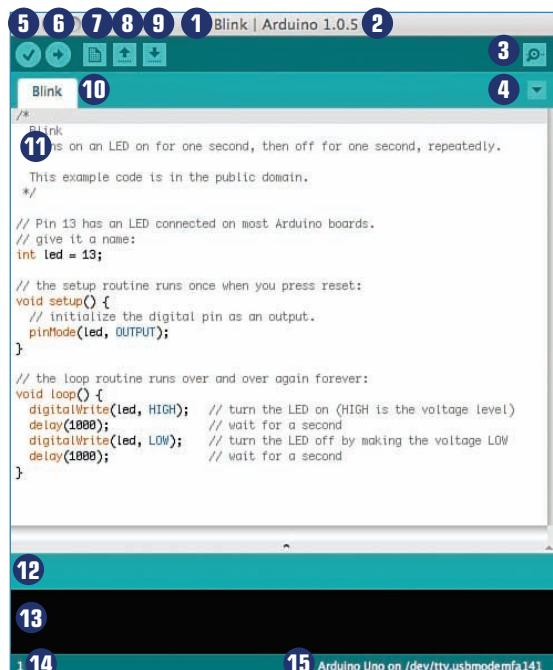

FIGURE 5.2 The Arduino environment's interface gives users a lot of options.
Broadly speaking, the IDE consists of a programming window and a set of menus. Figure 5.2 shows the Arduino IDE environment. Follow along with the callouts to see what each option does.
- ➖ **Status window**—This black pane displays error messages incurred during upload. The Arduino software verifies all code being sent and won’t upload if there’s an error. If a problem is found, the error message attempts to display what’s wrong, though it’s often cryptic! As you can see, no error message appears in Figure 5.2.
Let's delve into the code. First, however, make sure you have the latest version of the Arduino software. Simply launch the application and look at the top of the programming window (callout 2 on Figure 5.2) to see the version number. Next, go to the Arduino website at arduino.cc and click on Download. It'll tell you the current release number there.